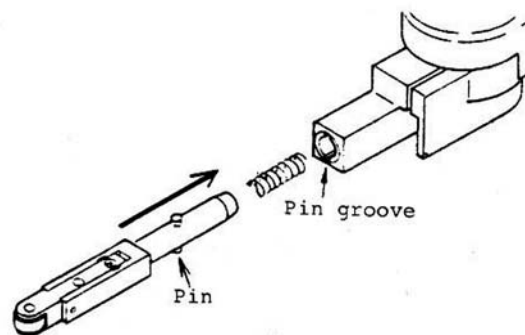

Figure 12
4. Insert new bracket by lining up pin with pin groove. See Figure 12.